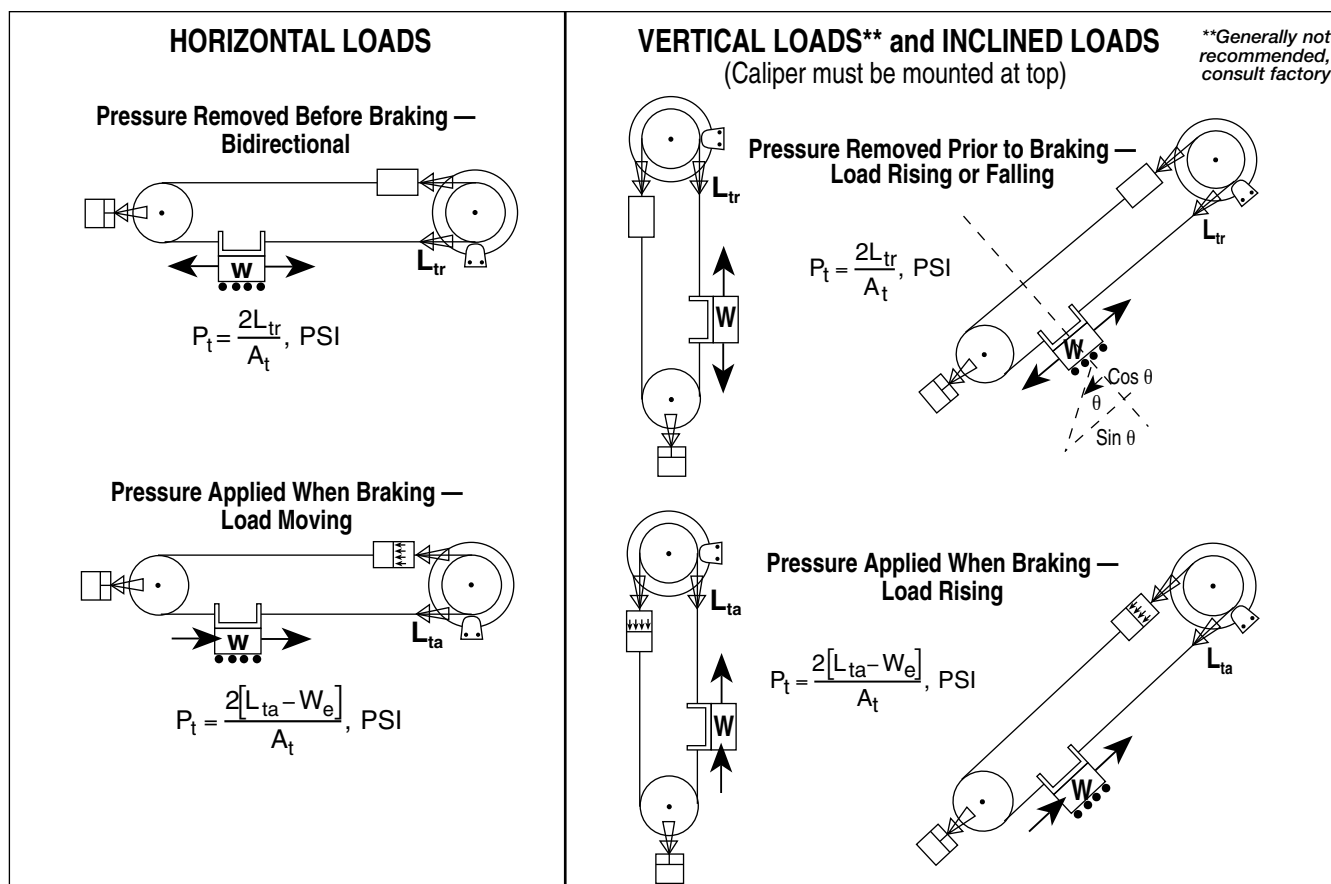

Figure 1
3. Calculate the tangential braking force required. This is (F_{tr}) when pressure is removed prior to braking, or (F_{ta}) when pressure is still applied when braking. Refer to illustrations in Figure 1.
- 5.** Calculate tensioner pressure setting, (P_t) based on type of load configuration. See Figure 1 and Table 1